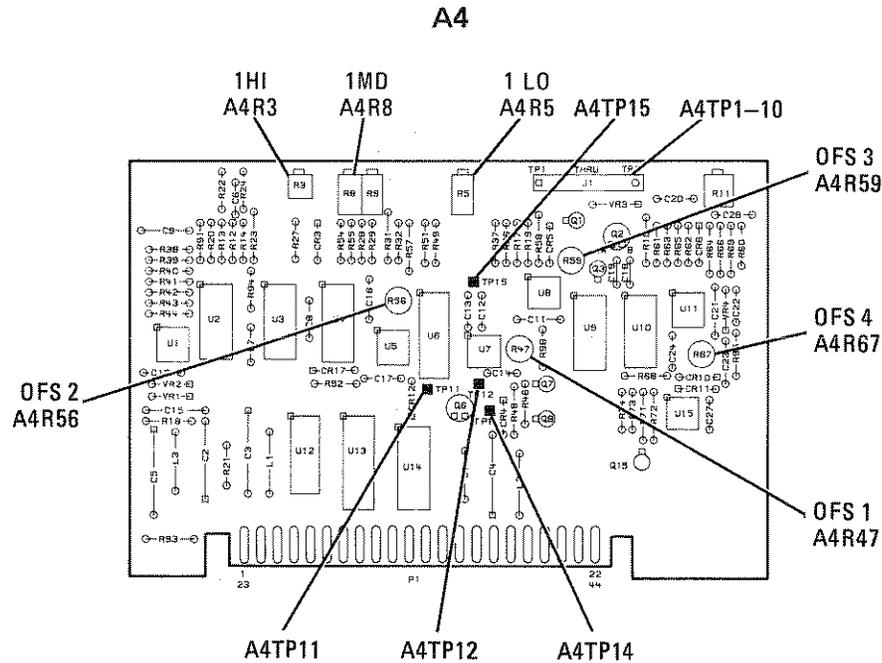

Figure 5-17. ALC Adjustments Location
2. Float the ground on the digital voltmeter and measure the voltage between A4TP12 and A4TP14 (Figure 5-17). Adjust A4R47 OFS 1 (offset 1) for $0.000V \pm 0.001V$.